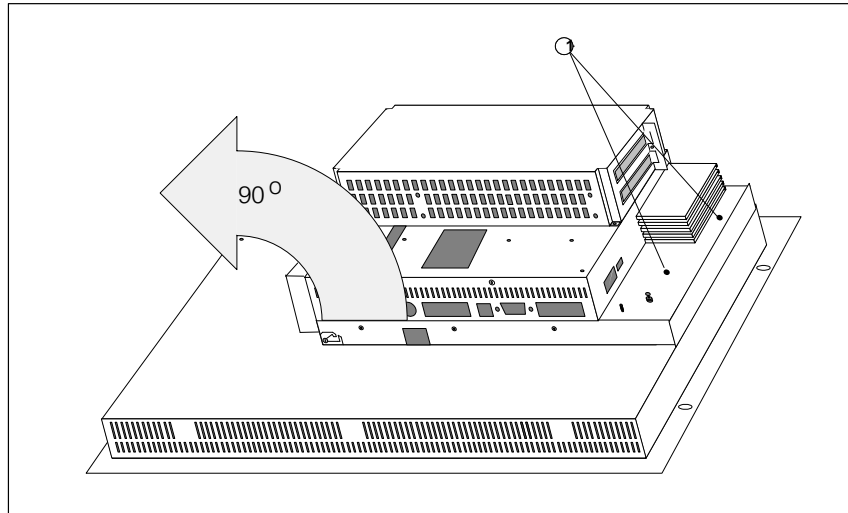

Figure 6-4 Releasing and folding out the PC box
1. Unscrew the two screws marked in Figure 6-4 with the number ①.